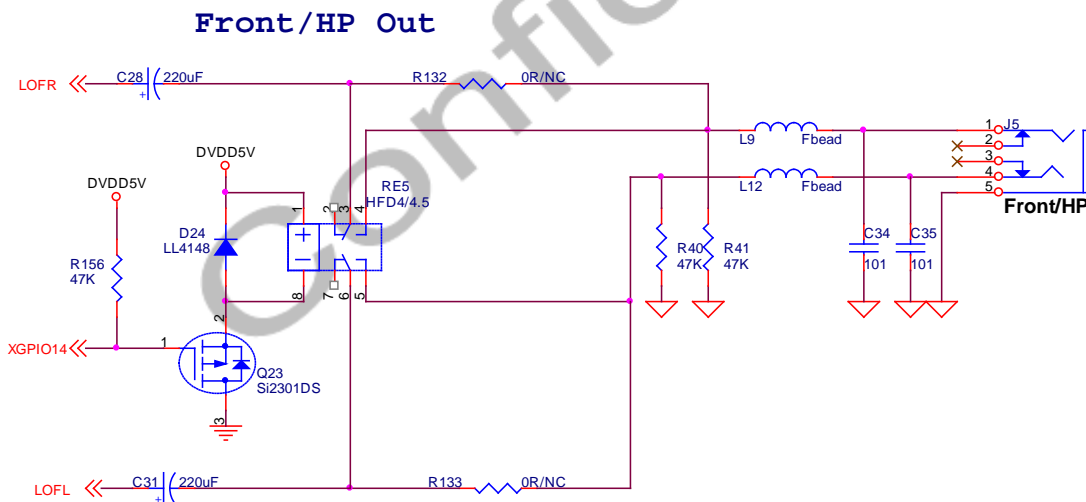

Fig.13 2 channel relay mute control circuit
(1) The relay circuit can effectively avoid the pop noise and THD+N can also keep the original audio quality. Please reserve a GPIO (XGPIO_11) pin to control NMOS (Figure 19) which active is low. Now the CM66XX demo board of c-media has been enabled the relay mute circuit as figure 13, but hasn't enabled 8 channel pop noise mute function. If you don't care the pop noise, please remove the components of relay circuit and hand soldering R132 and R133 resistors.
consider to use a pin GPIO to control all mute circuits or use two pins of GPIO to control 2 set mute control circuits as figure 13 and 14.